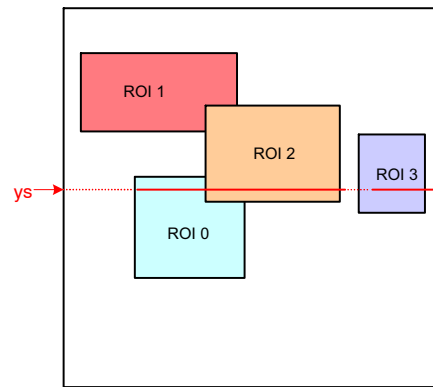

Figure 27. Scanning the Image Array with Four Windows
Figure 27 illustrates a practical example of a configuration with four windows. The current position of the read pointer ( $ys$ ) is indicated by a red line crossing the image array. For this position of the read pointer, three windows need to be read out. The initial start position for the  $x$ -kernel pointer is the  $x$ -start configuration of ROI0. Kernels are scanned up to the ROI2  $x$ -end position. From there, the  $x$ -pointer jumps to the next window, which is ROI3 in this illustration. When reaching ROI3's  $x$ -end position, the read pointer is incremented to the next line and  $xs$  is reinitialized to the starting position of ROI0.
- The read pointer is not necessarily incremented by one, but depending on the configuration, it can jump in  $y$ -direction. In Figure 27, this is the case when reaching the end of ROI0 where the read pointer jumps to the  $y$ -start position of ROI1